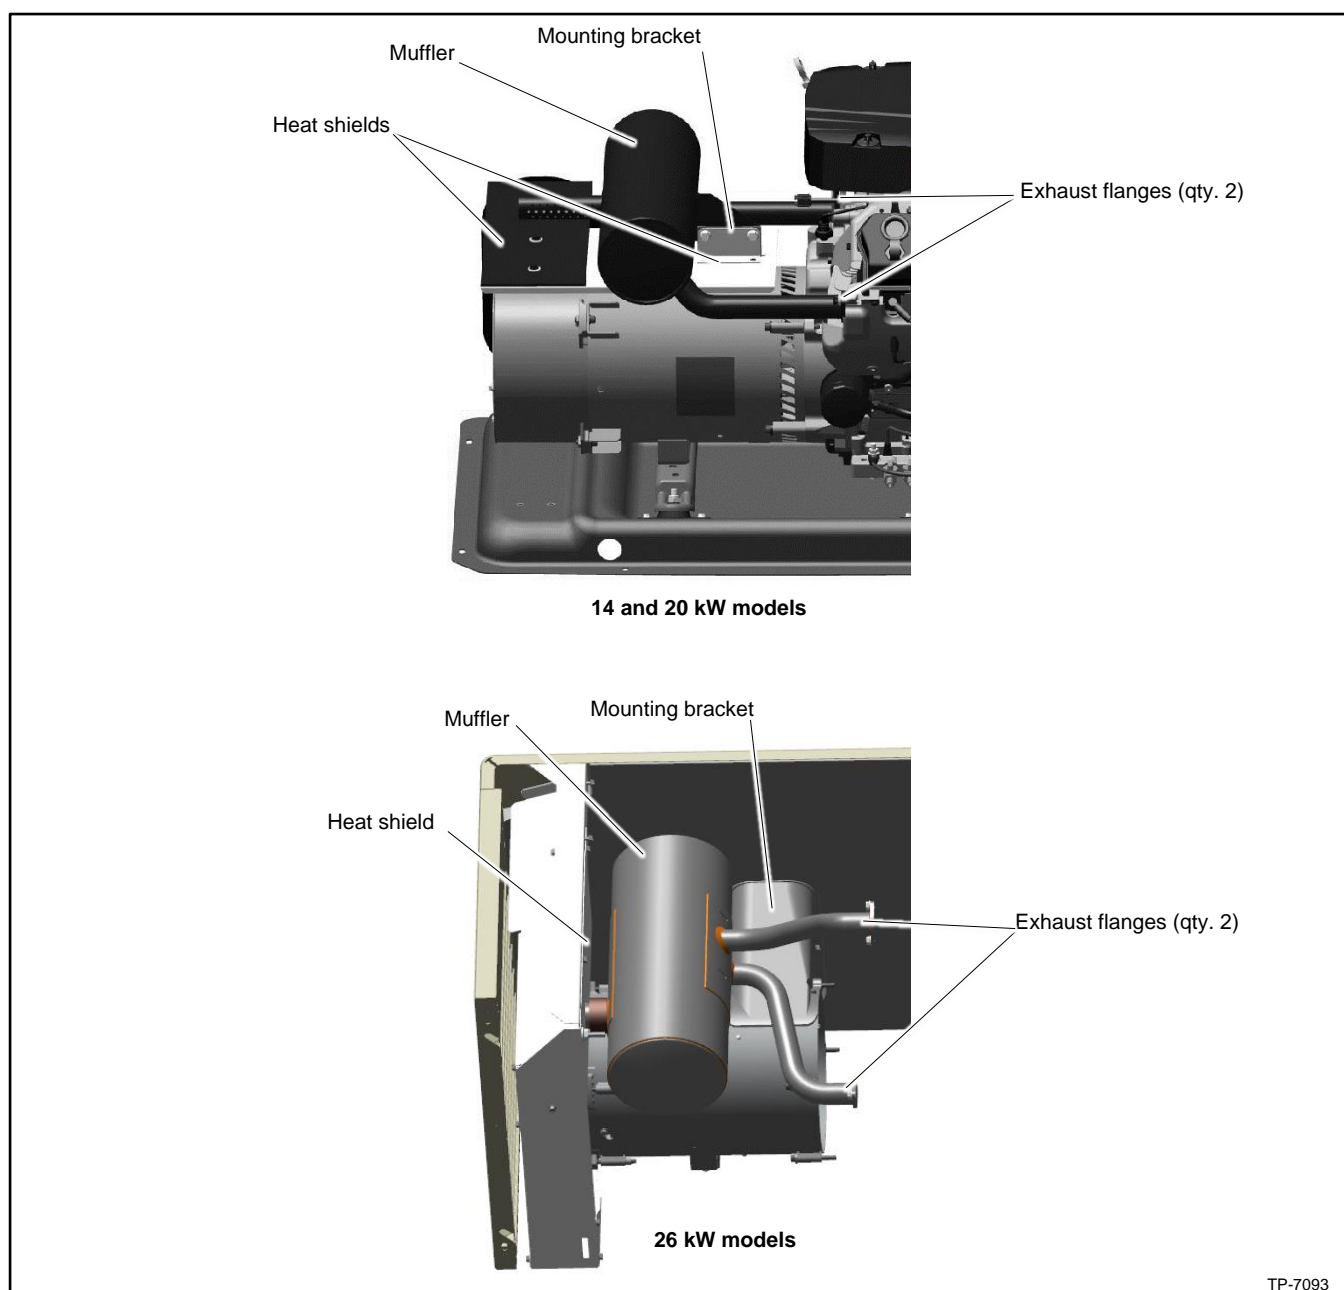

Figure 117 Muffler and Heat Shields
19. Disconnect the muffler from the engine at the two flange connections. Loosen the screws on the muffler support bracket and remove the muffler. See Figure 117.
20. Remove the heat shields from the alternator. See Figure 117.